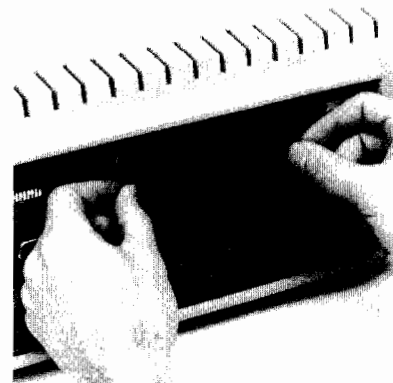

Figure 2-1.
2. Remove the protective cover from any unused port (figure 2-1). The remaining unused ports should be kept covered.